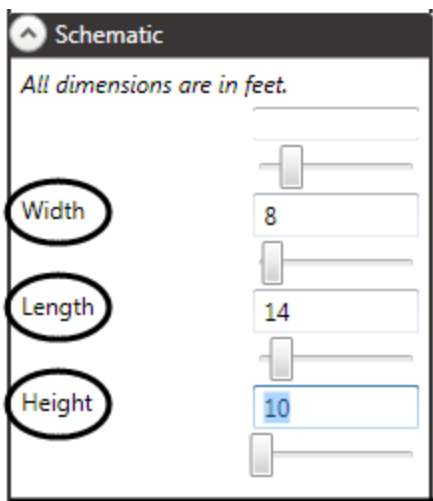

Figure 269
3. Adjust the **Width**, **Length**, and **Height** properties (Figure 269) by using either the sliders beneath each text field or typing in a dimension directly. As you change the dimensions, the winch model in the **Stage Model Viewer** will update.